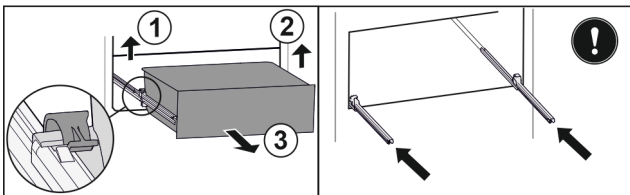

Fig. 20
- ▶ Lift left clamp and simultaneously pull drawer forwards on the left. Fig. 20 (1)
- ▶ Lift right clamp and simultaneously pull drawer forwards on the right. Fig. 20 (2)
- ▶ Remove drawer to the front. Fig. 20 (3)